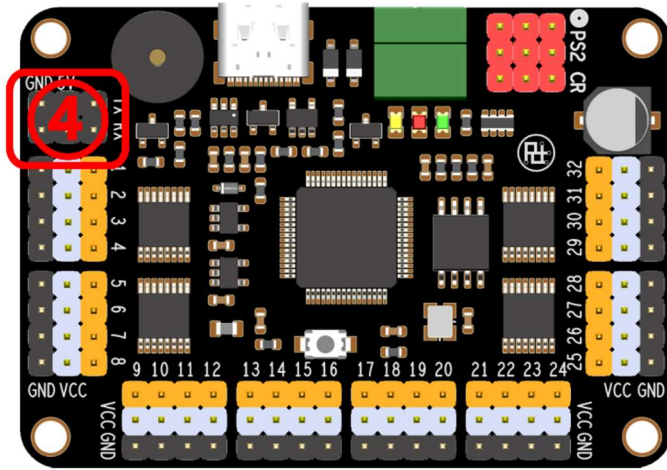
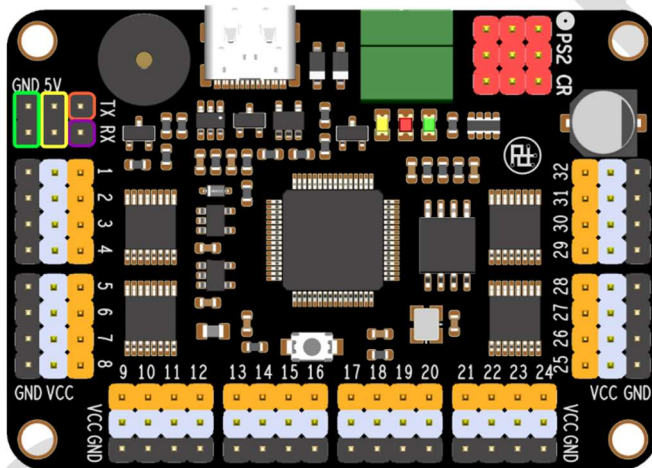

Figure 3
Figure 4
III. UART wiring method, as shown in Position ④ in Figure 3. Please refer to Figure 4 for details: